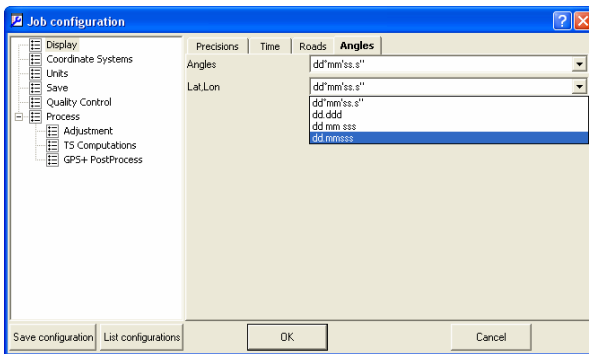

Figure 2-14. Job Configuration – Angles Tab
- The Angles tab (Figure 2-14) sets the format angular values.